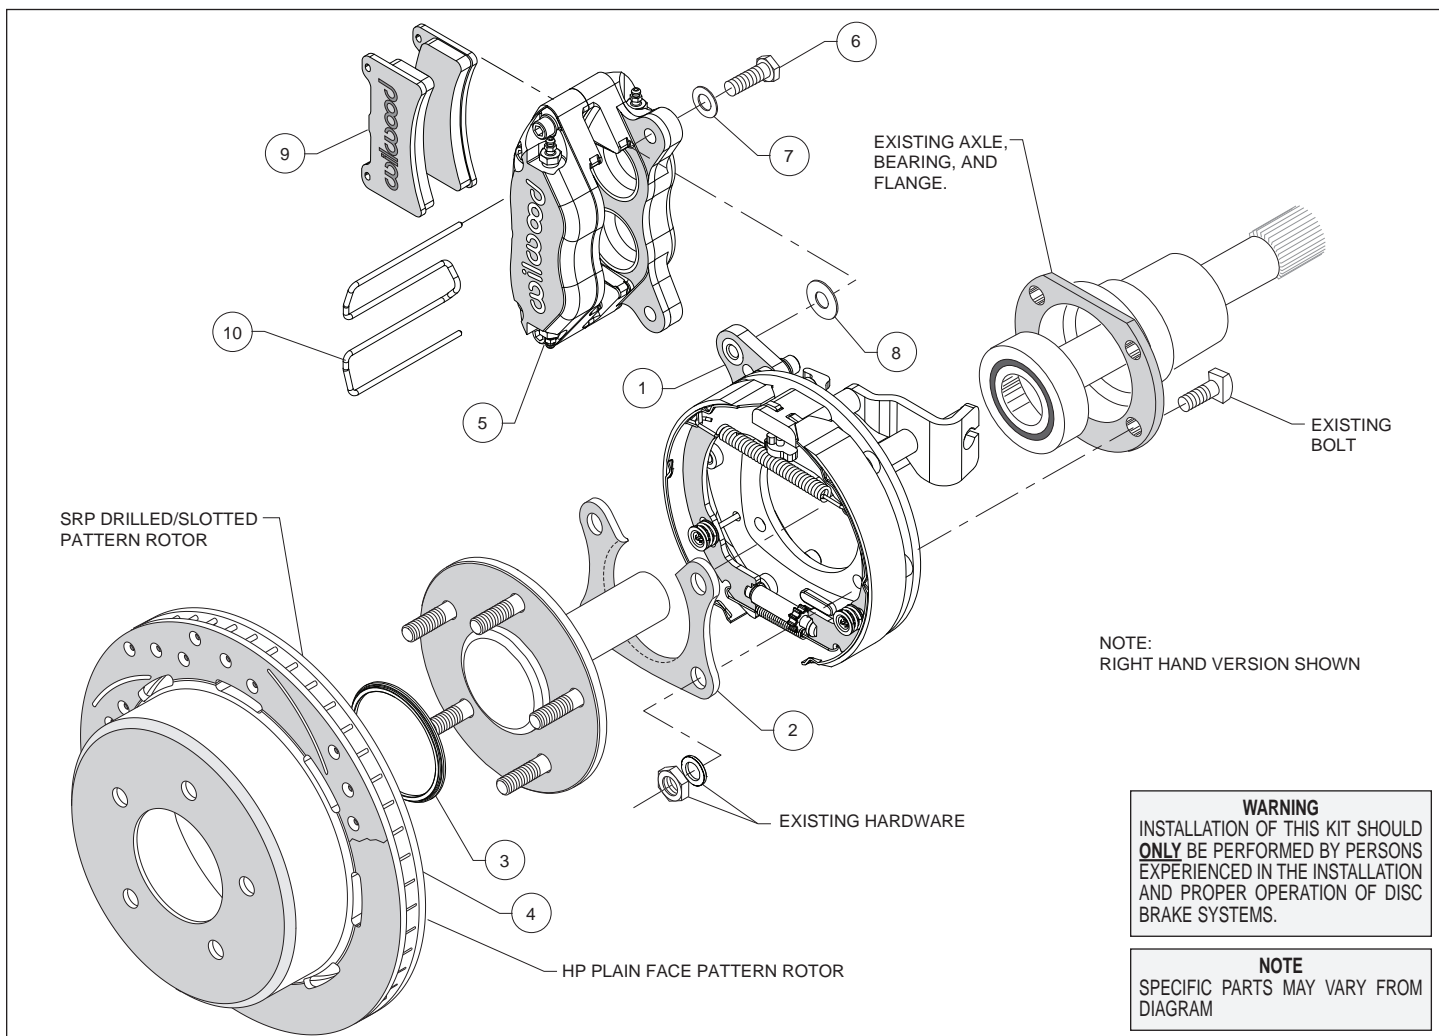
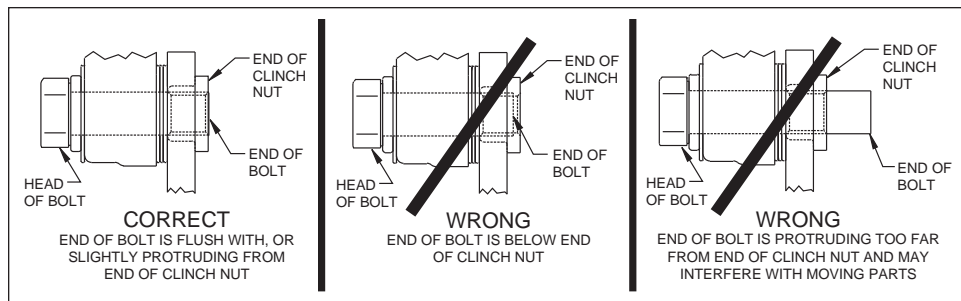

Figure 1. Typical Installation Configuration
Figure 5. Clinch Nut Engagement Diagram
**Assembly Instructions** (numbers in parenthesis refer to the parts list, and Figure 1 on the preceding pages): **CAUTION:** All mounting bolts must fully engage clinch nuts. Be sure to check that all bolts are either flush or protruding through flanged side of clinch nut after shimming, Figure 5.
- Orient the bracket assembly (1) as shown in Figure 1 and Photo 1, and slide it onto the axle. Insert the axle and bracket into the axle housing. Ensure that the bracket assembly backing plate fits flush against the axle housing flange.
- Install the bearing retainer (2) with the opening pointing upward and the lip facing inward (toward the bearing), as shown in Figures 1 and 4, and Photo 2. Secure retainer and bracket assembly to the axle housing flange using the Original Equipment Manufacturer (OEM) bolts, washer, and nuts, Figure 1. Apply red *Loctite*® 271 to the OEM bolt threads and torque to OEM specifications.
•Slide the rotor registration adapter (3) onto the axle register on the axle flange with the smaller O.D. facing toward the rotor/hat (4), Photo 3. Align the hole pattern in the rotor/hat with the stud pattern on the axle flange and slide into place, Figure 1 and Photo 4. **NOTE:** The rotor/hat must fit flush against the axle flange or excessive rotor run out may result. Install three lug nuts (finger tight) to keep the rotor/hat assembly in place while continuing with the installation. **NOTE:** Some OEM and after market axles come with stud sizes larger than 0.50" diameter. Verify stud size and have a qualified machine shop drill the bolt circle of the hat/rotor to the correct stud size, if necessary.
•**NOTE:** Please reference the caution statement at the beginning of the assembly instructions. Mount the caliper (5) onto the caliper mounting bracket (1) using bolts (6) and washers (7), as shown in Figure 1. Initially place one .035" thick shim (8) on each bolt between the caliper and the bracket, Photo 5. Temporarily tighten the mounting bolts and view the rotor (4) through the top opening of the caliper. The rotor should be centered in the caliper, Photo 6. If not, adjust by adding or subtracting shims between the bracket and the caliper. Always use the same amount of shims on each of the two mounting bolts. **NOTE:** The end of each bolt must be flush with or slightly protruding from the head of the clinch nut, as shown in Figure 5. If necessary place spare shims between washer (7) and caliper mounting ear to achieve the proper clinch nut engagement. Once the caliper alignment and clinch nut engagement are correct, remove the bolts one at a time, apply red *Loctite*® 271 to bolt threads, and torque to 40 ft-lb.